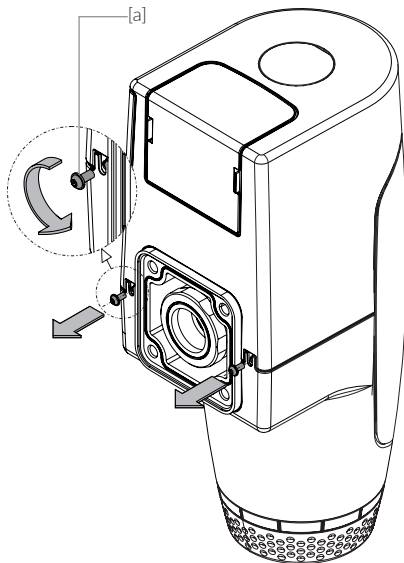

Fig. 8.10
- / Fig. 8.10: Loosen and unscrew the two screws [a] on the back of the housing